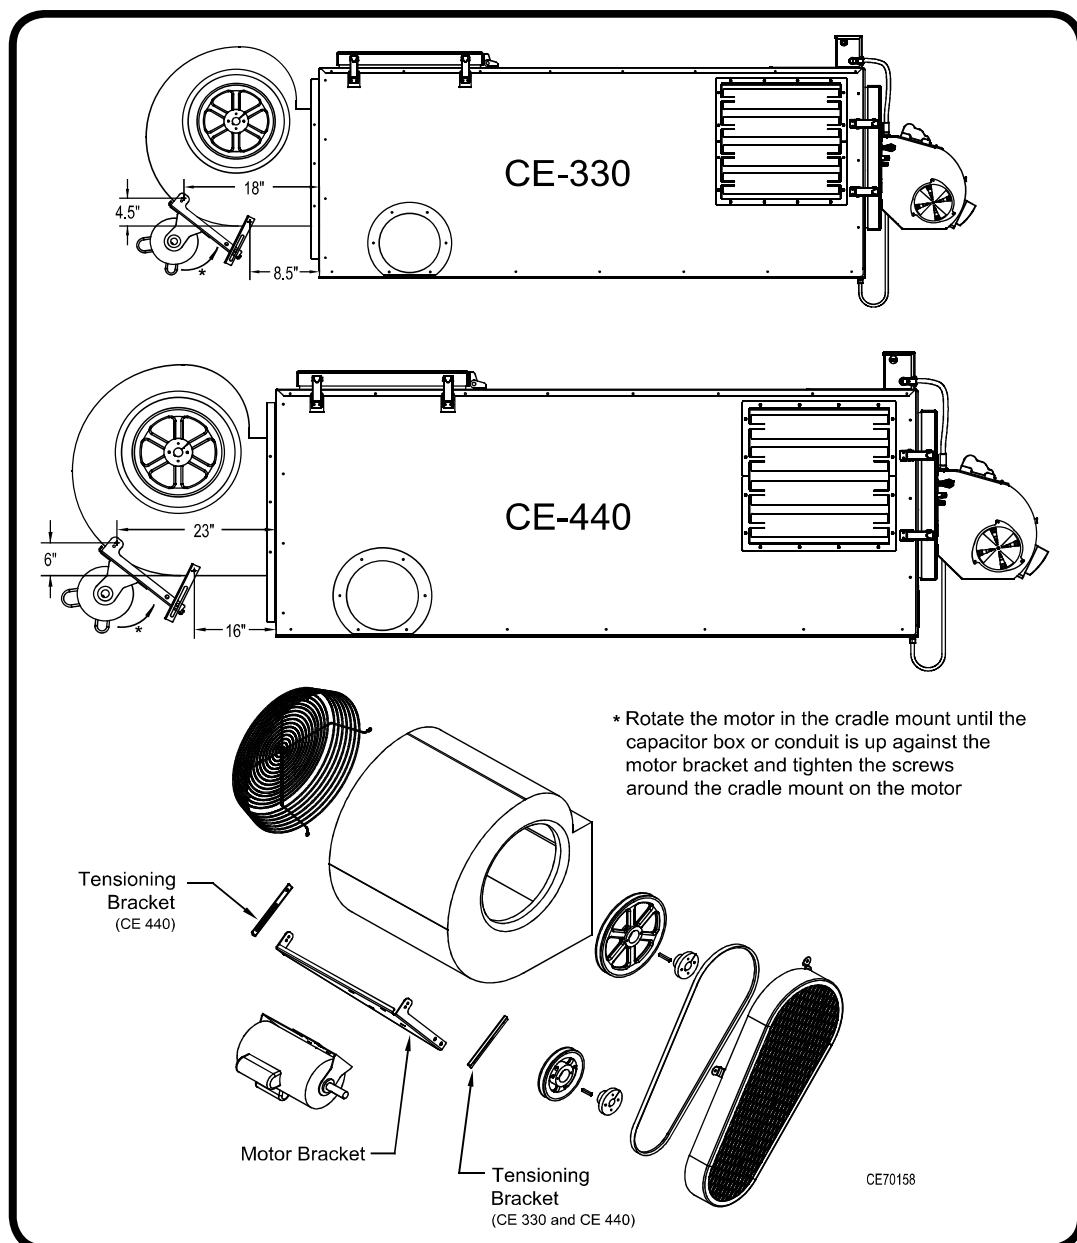

Figure 2A: Blower Assembly Installation (CE-330)
- (1) Refer to Figure 2A.
- (2) Place the blower inside the mounting angles on the back of the furnace with the blower bubble turned up. Move the mounting angle brackets tight against the blower.
- (3) Use the included #10 self-drilling screws to secure the blower housing to the mounting angle brackets on the back of the furnace cabinet.
- (4) Secure the motor to the motor bracket with the supplied hardware.
- (5) Fasten the motor bracket and tensioning bracket to the blower according to dimensions shown in Figure 2A.
- (6) Install the blower pulley and motor pulley. Use a straight edge to make sure the pulleys are installed on the same plane.
- (7) Install the belt on the pulleys and tighten the tensioning bracket(s) to maintain proper belt tension.
- (8) Connect the flexible conduit from the blower motor to the rear electrical box and connect the wire leads according to the electrical schematic label in the rear junction box. Wire the motor for high voltage (220V) as shown on the motor label. The motor needs to rotate CCW shaft end when mounted as shown in Figure 2A.
- (9) Rotate the motor in the cradle mount until the capacitor box or conduit is up against the motor bracket and tighten the screws around cradle mount on the motor. This will keep the motor from “spinning” and damaging components when it first starts up.
- (10) Fasten the blower guards with the remaining #10 self-drilling screws to each side of the blower.